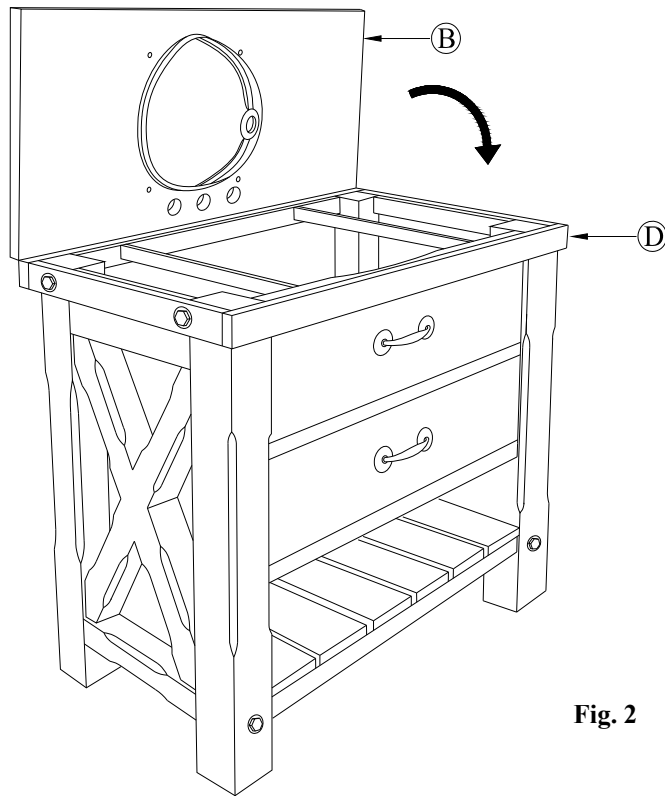

Fig. 2
- Carefully lift up the marble top (B) with basin attached to place it onto the console base (D). Let the marble top lies flatly on top of the console base (D). (Fig.2)